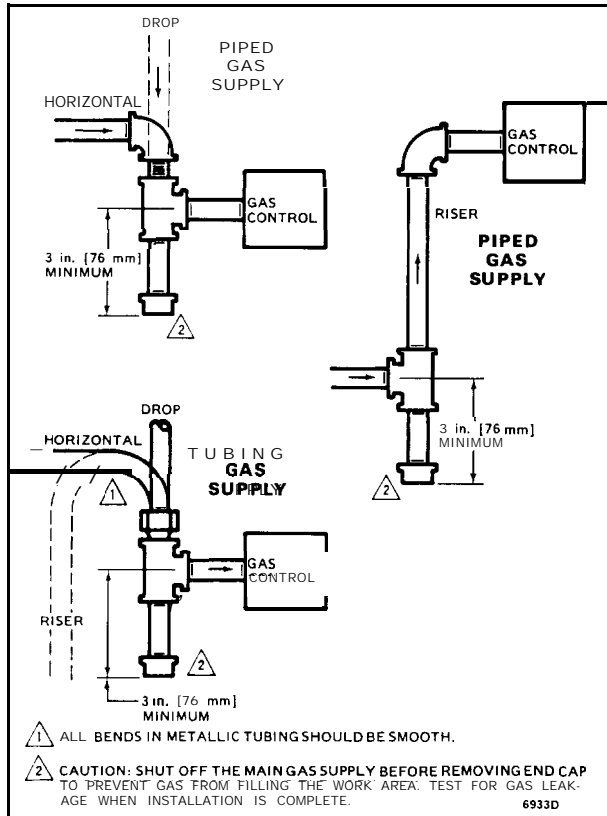

FIG. 4—SEDIMENT TRAP INSTALLATION.
3. Install sediment trap in gas supply line. Refer to Fig. 4.